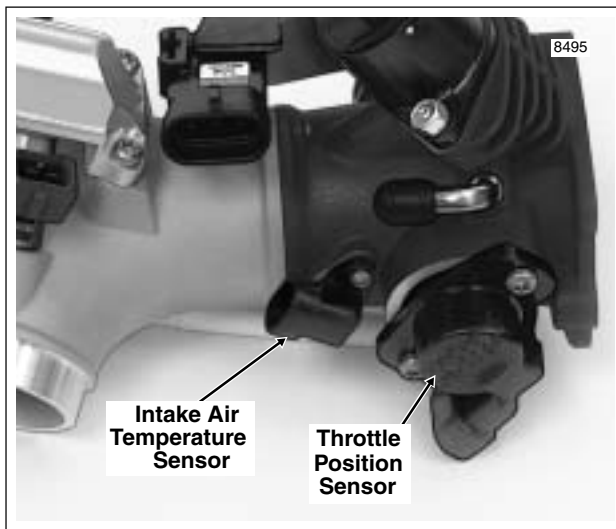

Figure 9-32. Induction Module (Rear View)
- Disconnect the intake air temperature sensor connector. See Figure 9-32. Pull external latches outward and use a rocking motion to separate pin and socket halves.
- Using a T10 TORX drive head, remove two screws to release intake air temperature sensor from induction module. See Figure 9-32.
- Insert sensor into induction module with electrical connector facing toward the left side of the vehicle. See Figure 9-32.
- Using a T10 TORX drive head, install two screws to secure intake air temperature sensor to induction module. Alternately tighten screws to 12 **in-lbs** (1.4 Nm). See Figure 9-32.
- Disconnect the throttle position sensor connector. See Figure 9-32. Pull external latch outward and use a rocking motion to separate pin and socket halves.
- Using a T20 TORX drive head, remove two screws to release sensor from induction module. See Figure 9-32.
- Using a T20 TORX drive head, install two screws to secure throttle position sensor to induction module. Alternately tighten screws to 27-33 **in-lbs** (3.0-3.7 Nm). See Figure 9-32.